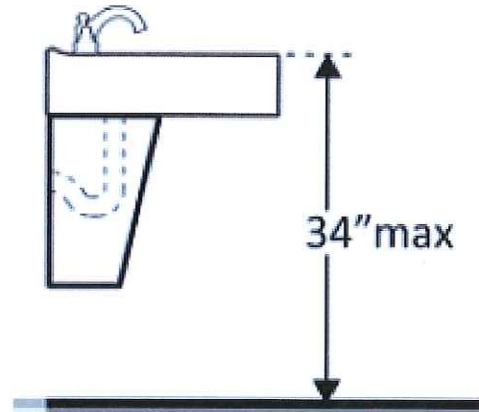

Figure 6
- Lower sink to ensure the front is at a height no higher than 34" measured to the higher point of the rim or counter top (fig. 6)